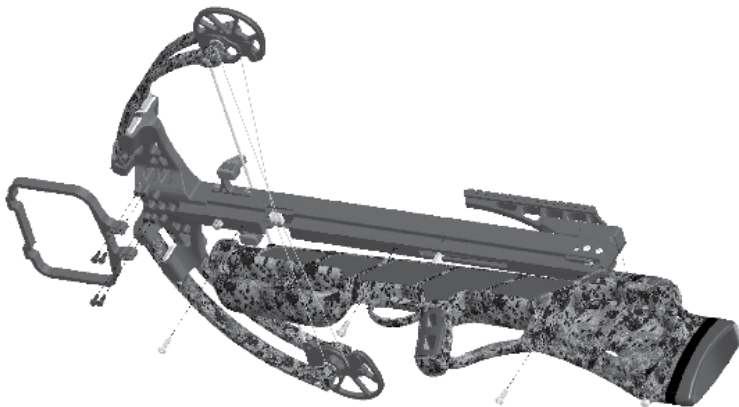

Figure 2: Positioning and attaching the rail and stock.
3. Lay the stock on the rail as shown in **Figure 2**, make sure the stock holes are lined up with the holes in the rail.
6. Place the stirrup on the riser as shown in **Figure 2**, make sure the counter bores are facing up.